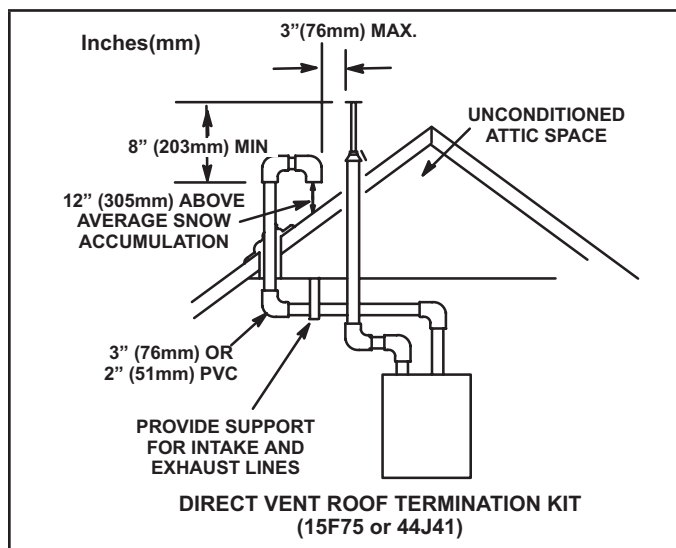
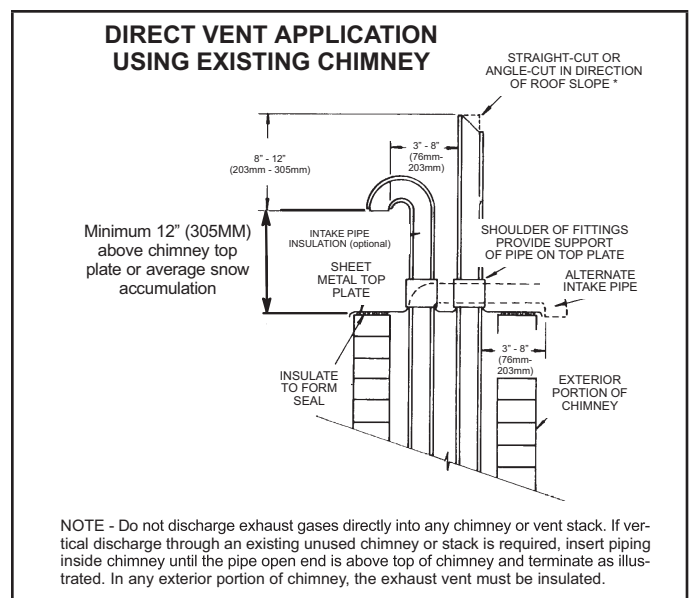

FIGURE 37
FIGURE 44
Intake and exhaust pipes may be routed either horizontally through an outside wall or vertically through the roof. In attic or closet installations, vertical termination through the roof is preferred. "FIGURE 37" through "FIGURE 44" show typical terminations.
- 3 - On roof terminations, the intake piping should terminate straight down using two 90° elbows (See "FIGURE 37").